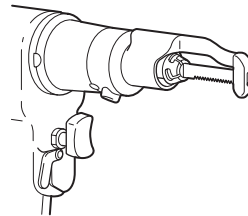

Figure 2 Guard Installation
**NOTE:** When the sternum blade guard is used, it can be installed in the orientation shown or rotated 180° (see figure 2). The blade teeth must point away from the sternum blade guard.